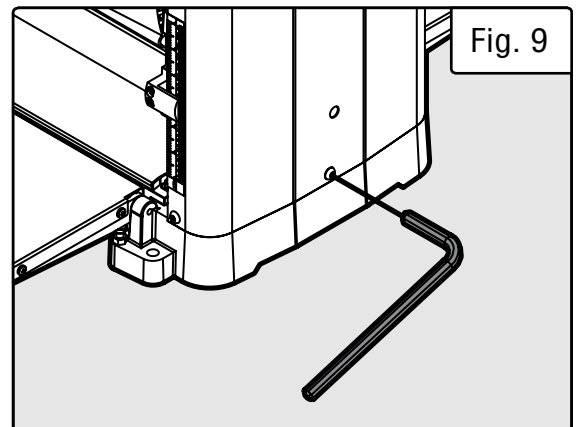

Fig. 9
3. Insert the included hex wrench into the hole on the right cover (Fig. 9; adjust the height of the rollercase if necessary). Use the hex wrench to turn the cutterhead, so the blades are easily accessible. The cutterhead lock will automatically engage when the cutterhead is in the right position.